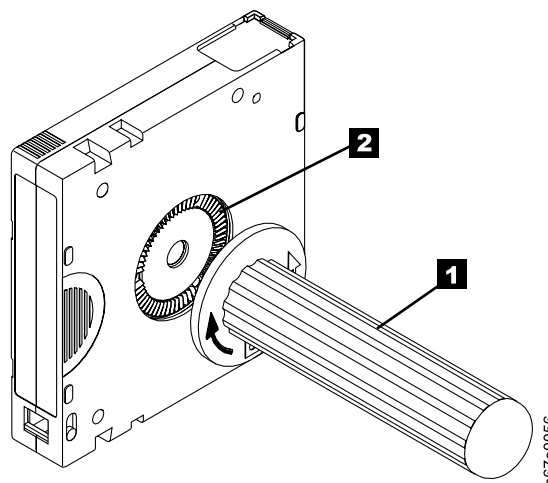

Figure 18. Rewinding the tape into the cartridge
5. To rewind the tape, insert the cartridge manual rewind tool ( **1** in Figure 18) into the cartridge's hub **2** and turn it clockwise until the tape becomes taut.